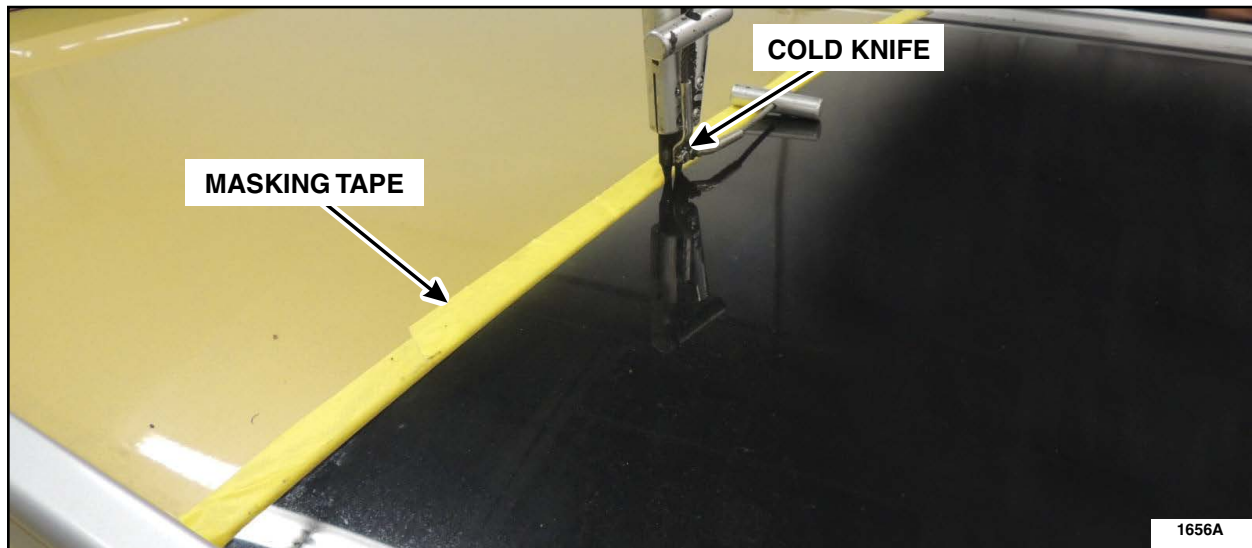

FIGURE 3
4. Using a cold knife, cut the urethane bead between the panoramic roof panel and body. See Figure 3.